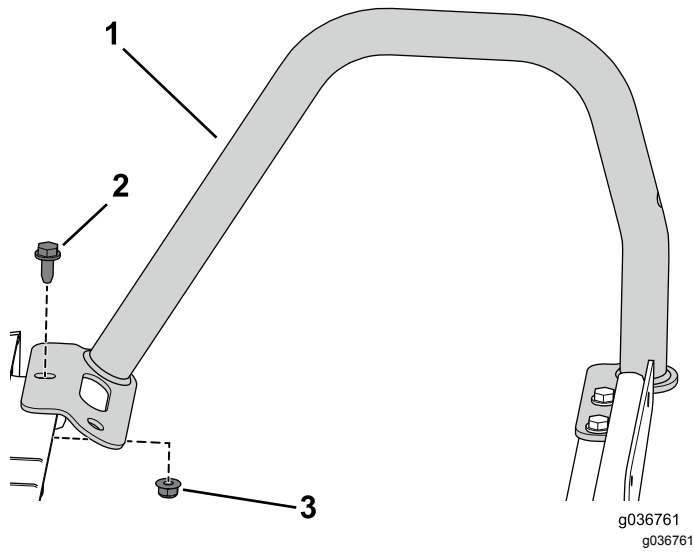

Figure 7
2. Install the previously removed right handhold using the previously removed 3 flange bolts (5/16 x 3/4 inch) and 3 flange nuts (5/16 inch) as shown in Figure 7.